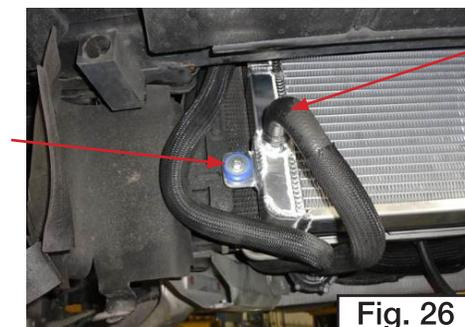

Fig. 26
exchanger to be attached. Install the bottom bolts through the rubber grommets and into the condenser mounts (Fig. 26).
26. Remove the factory hose clamps from the hoses and use the provided hose clamps. An extra hose clamp is provided to use on the hose end attached to the coolant pump. Attach the factory passenger side hose to the bottom outlet of the AFCO heat exchanger (Fig. 26).